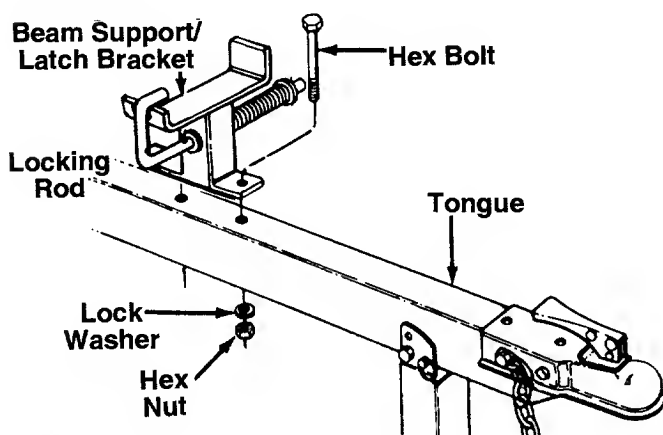

FIGURE 7.
2. Place the beam support/latch bracket on the tongue as shown in figure 7. Secure with hex bolts, lock washers and hex nuts just removed. Tighten securely.
1. Pull the locking rod on the beam support/latch bracket away from the log splitter tongue (refer to figure 7), and pivot it down. Carefully lower the wedge, beam and cylinder assembly to the horizontal position. Secure the beam with the locking rod.